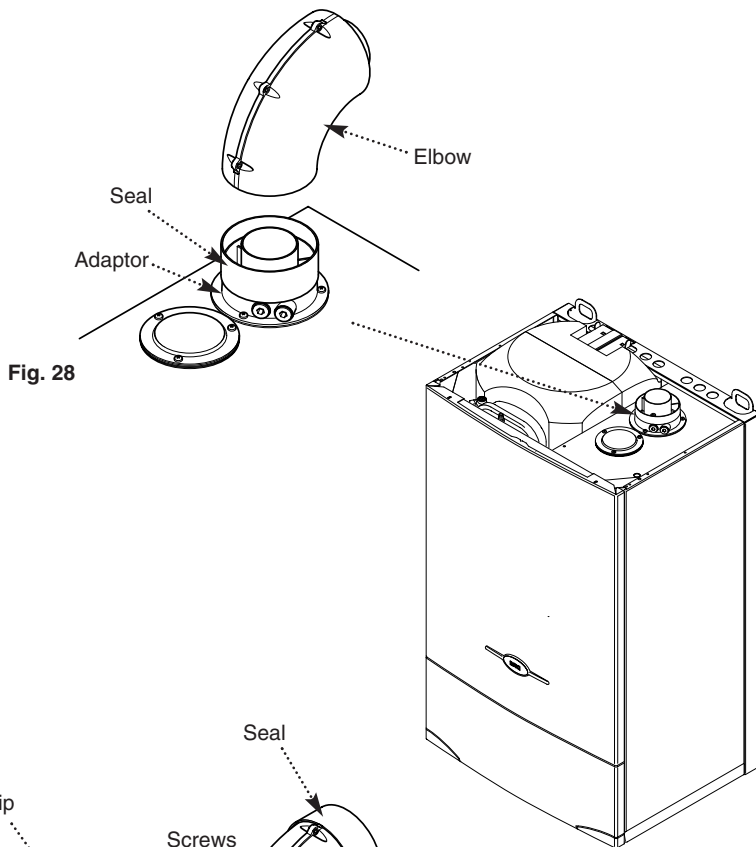

Fig. 28
9. Take one of the rubber seals and position it on the boiler flue adaptor. Engage the flue elbow on the adaptor and pull the sleeve up so that it equally covers the joint (Fig. 28).